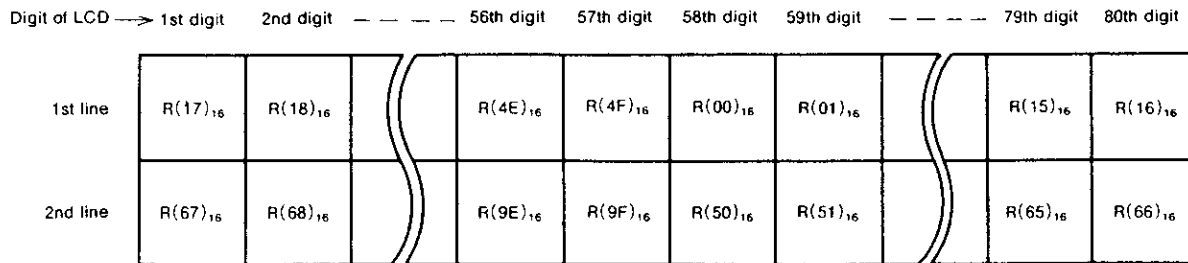

Fig.6 Example of display address
When the content of the display start address register is (17)16, the LCD is given by Fig. 6.